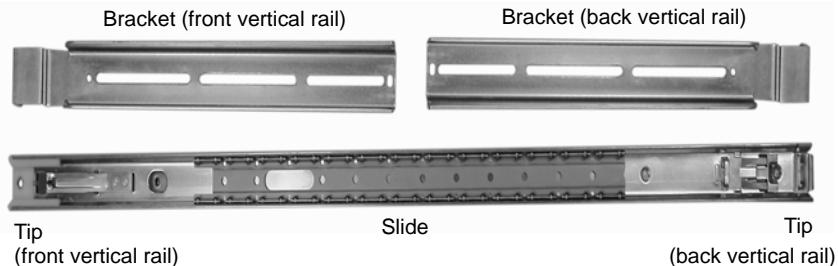

FIGURE 1-14. A slide set is composed of two brackets and a slide
1. Prepare one end of the slide set. See *Figure 1-14* for information about the slide set elements.